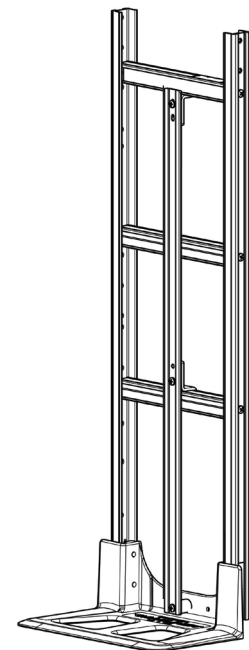

Figure 3
2. Place the vertical strap assembly against the front of the hand truck frame as shown in Figure 3 so that the intermediate Z-bracket(s) are resting on top of the lower cross brace.